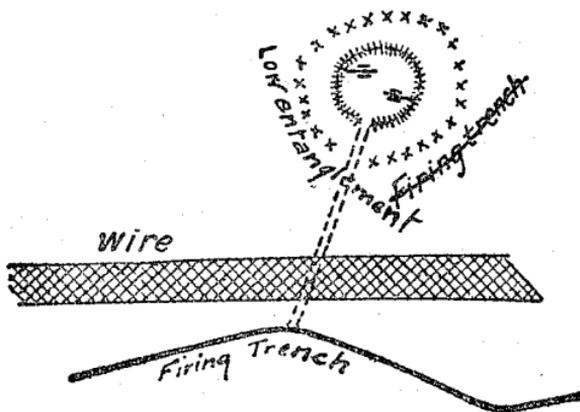

FIG. 212.
bombproofs. The digging of pits in the open ground well to the front of the trace of the firing trench, with which they are connected by subterranean galleries, as is shown in figure 212, also gives good results. For the distribution of machine guns between the first line, the support trench, and the line of re-doubts, see Chapter V of this part (IV). The flanking arrangements from one supporting point to the neighboring supporting points by the use of machine guns, 37-mm. guns or 75-mm. guns, is regulated by the superior commander.